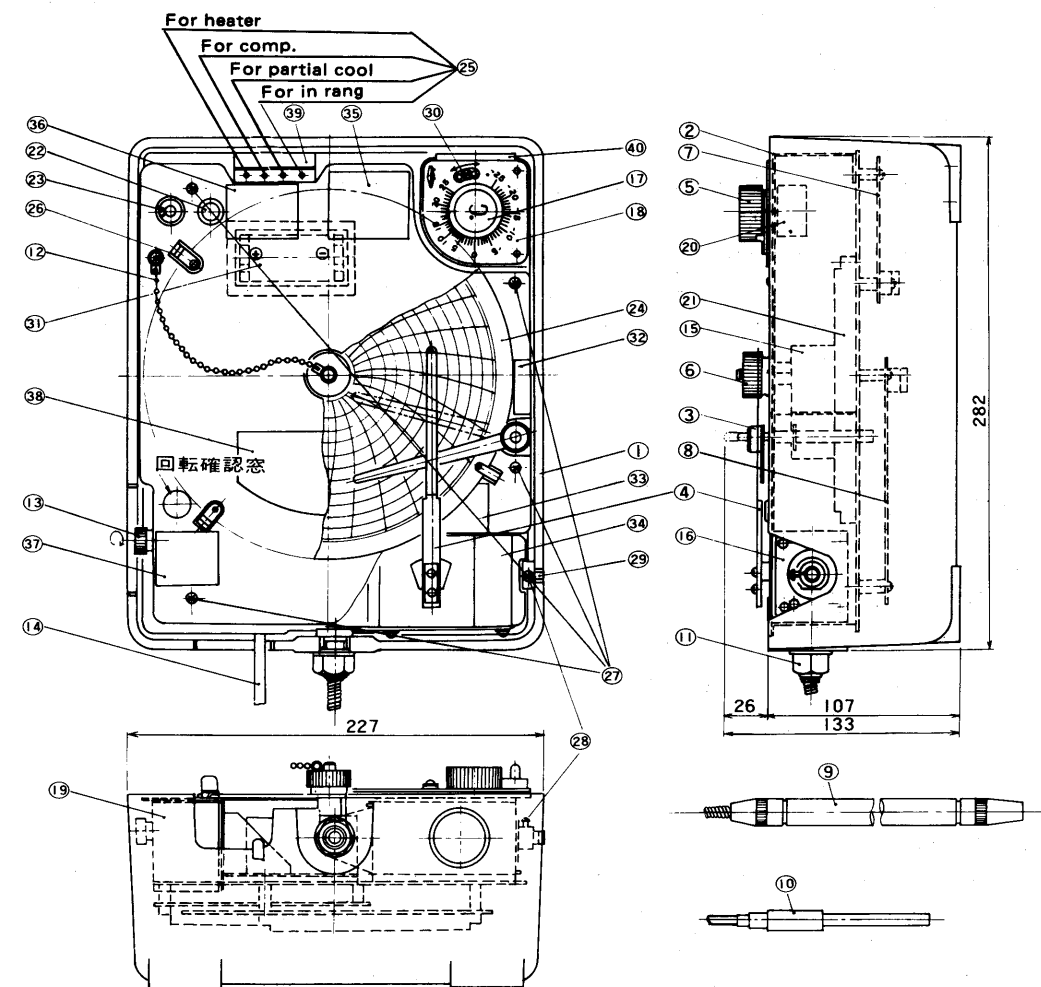

Fig. 1 Structure
- External wiring (Wiring from the devices in the control box . . . to Terminal 21 in Fig. 1)